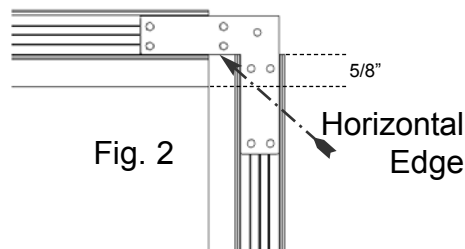
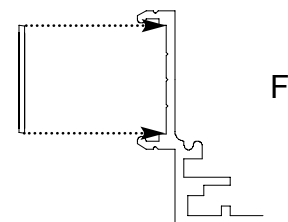

Fig. 2
Fig. 3
6. Push one jamb up to sill and use a square for a 90° corner. Horizontal edge of jamb must line up with horizontal edge of clip. (Fig. 2) Clip must set flat in groove. (Fig. 3)
8. Repeat for top of jambs to head, check for 90° at corners and secure in place. (Fig. 3)